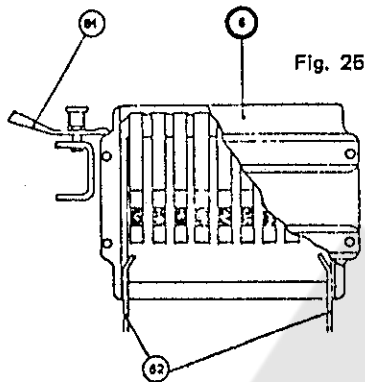

Fig. 25
A. **Arc Chute (Fig. 25).** To remove arc chute, raise retaining lever (61), rotate lever 90 degrees to clear path, and remove arc chute by lifting upwards. The reverse procedure is followed for repositioning arc chutes, making sure the respective arc chutes fit over arcing horns (62).